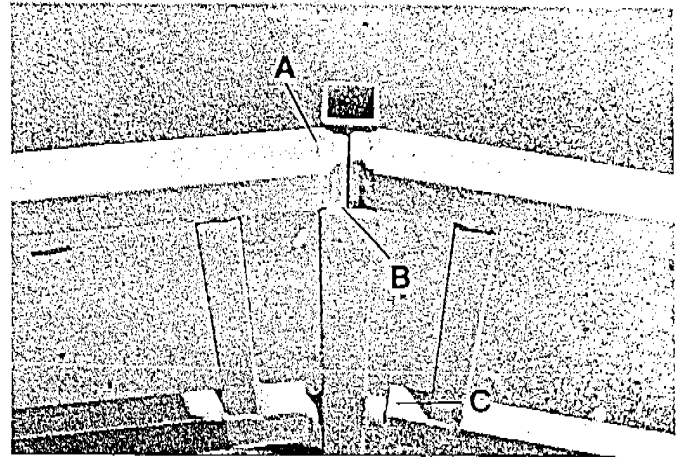

Fig. 21
- (1) **NOTE:** The ends of the top cross bars are cut at a slight angle (a). Position each top handrail section so the widest part of the angle fans to the outside. (Fig. 21)
- (2) Slip the hooks on the top handrail section down in the inside sockets at the top of the vertical bars (b). **NOTE:** The hooks from the adjoining top handrail sections will fit into the same sockets (Refer to Fig. 21)
- (3) Slide the pins on the vertical bars into the slots in the ends of the lower cross bar of the top handrail section (c). (Refer to Fig. 21)